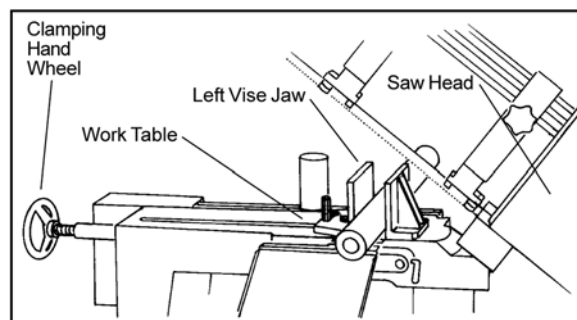

Figure 5: Securing workpiece
1. Raise the saw head (refer to Figure 5).